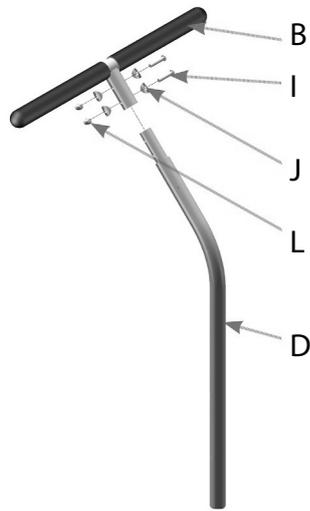

fig. 5
To mount the bar (B) to the adjustable tube (D) use four curved washers (J), two cylinder head bolts (I) and two safety nuts (L) (fig. 5)